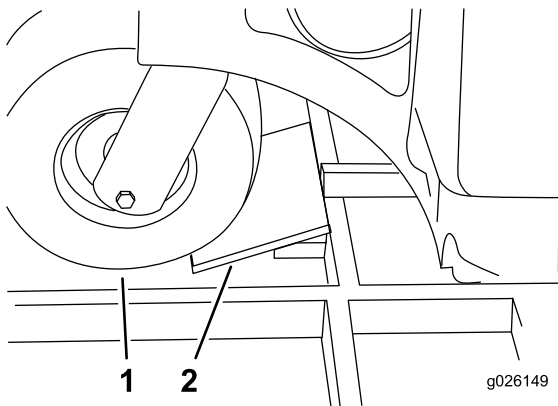

Figure 7
17. Install pieces of wood, to form a ramp, in front of the rear tire (Figure 7).